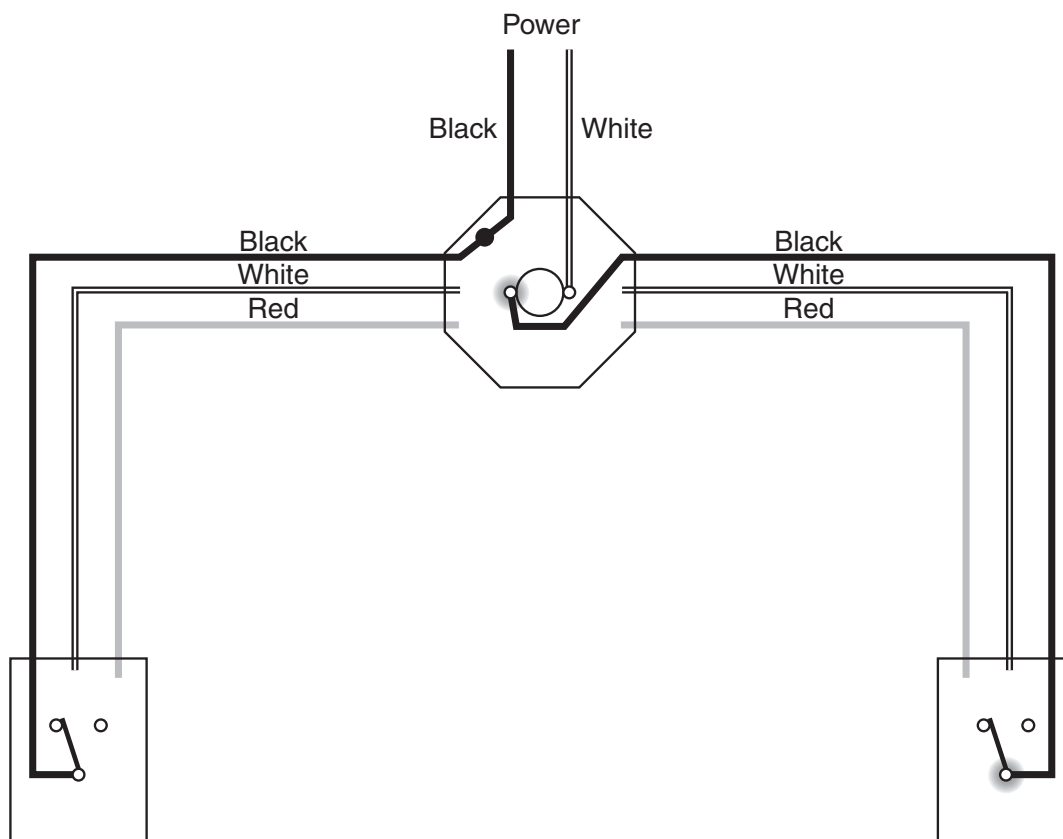

Figure 8-16 The other side of the light is connected to the common terminal of the second 3-way switch.
3. *Connect the other side of the light to the common terminal of the other 3-way switch.* The black wire of the other three-conductor cable will be used to make this connection, as shown in Figure 8-16. Notice that the black wire is connected to the common terminal of the switch.